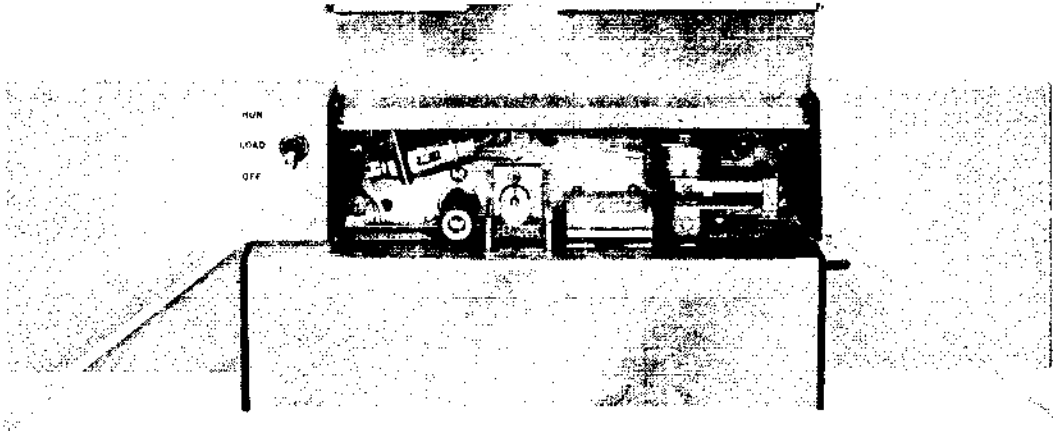

Figure 3-2. Tape Path
- a. With ac power applied, and the Power switch in the RUN position, swing open top door (see Figure 3-2) and observe that the capstan(s) rotate.
- d. Thread tape through reader with channel one side of tape nearest panel (see Figure 3-2).